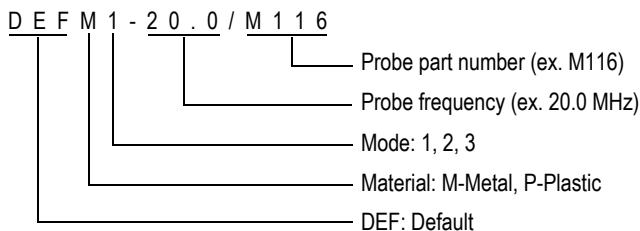

Figure 5-3 Selecting a default single element transducer setup
- c) In the **DEFAULT** screen for the type of probe you are using (see the example shown in Figure 5-3 on page 63), highlight the setup in the list of available default setups for the transducer that you are using.